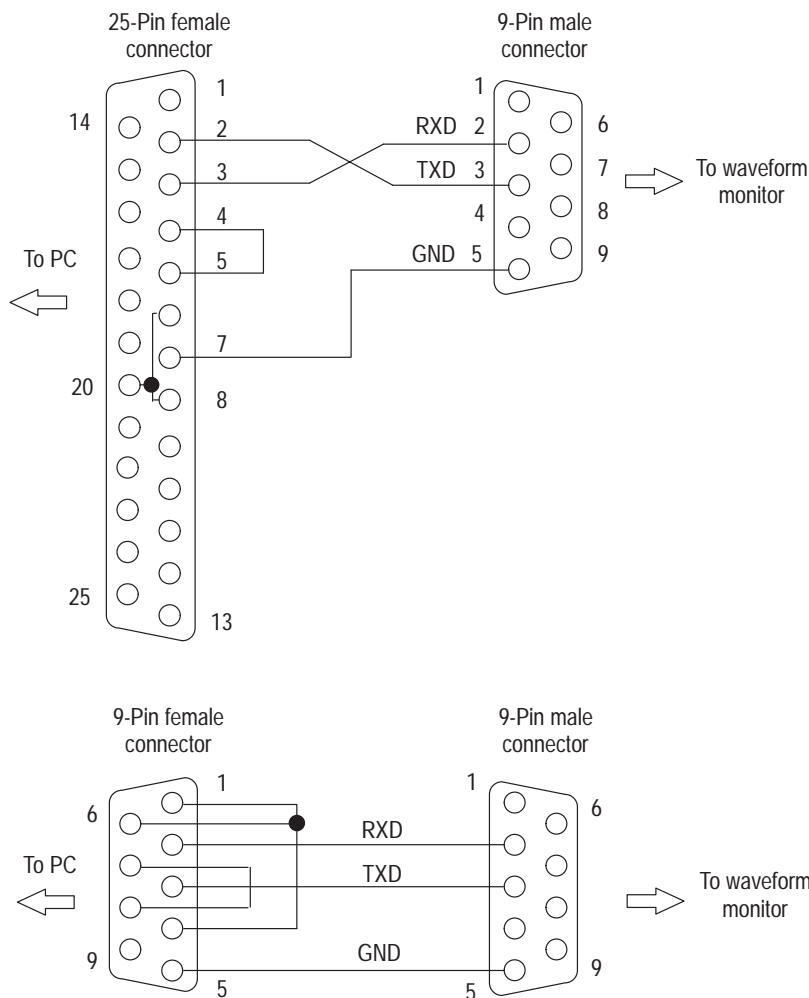

Figure 1: Configuration for RS-232 communications
2. Connect the rear-panel RS-232 connector of the waveform monitor to the COM 1, 2, 3, or 4 connector on the PC using a cable wired as shown in Figure 1.
2. Verify the RS-232 configuration as shown in Figure 1 on page 10 and Table 1, on page 9.